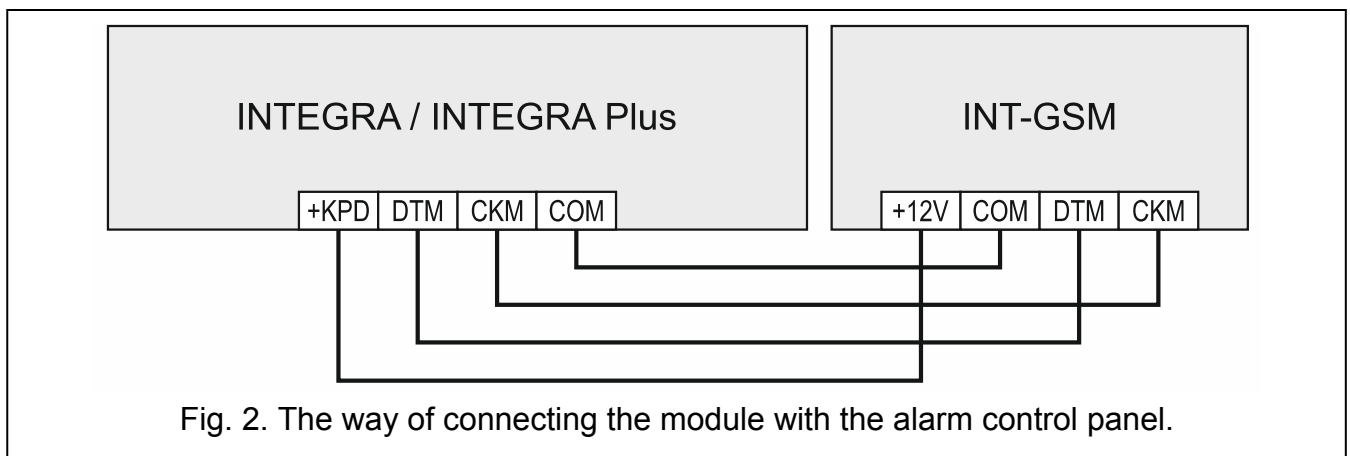

Fig. 2. The way of connecting the module with the alarm control panel.
1. Connect the +12V, COM, DTM and CKM module terminals to the control panel terminals (Fig. 2). To connect the +12V and COM terminals, use flexible conductors with a cross-section of 0.5-0.75 mm2, or rigid conductors with a cross-section of 1-2.5 mm2. If you use the "twisted pair" type of cable to connect the DTM and CKM terminals, keep in mind that the CKM (clock) and DTM (data) signals must not be transmitted using one pair of twisted wires. The wires must be run in one cable.